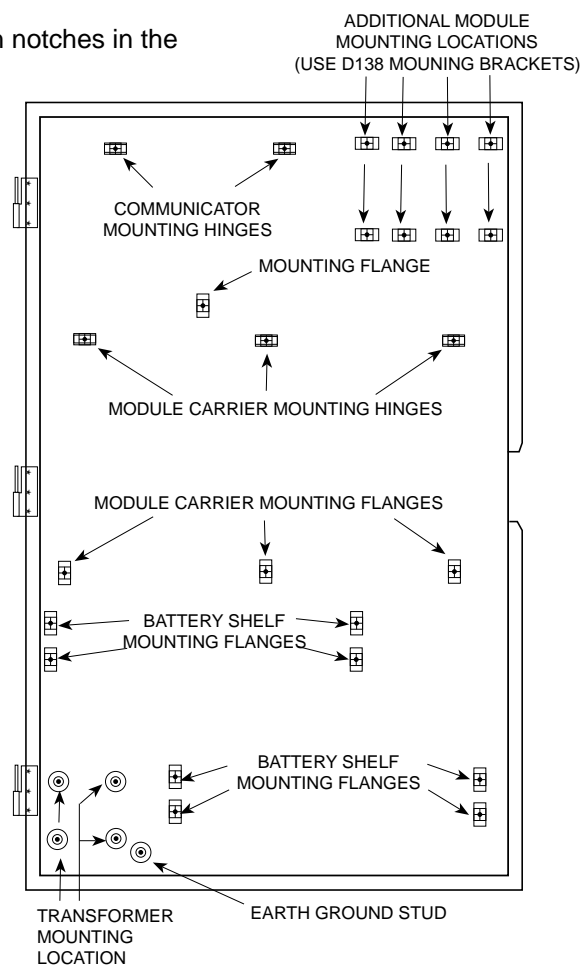

Figure 6: Mounting Locations
The D1601 is a 120 VAC, 16.5V/24VAC dual secondary transformer that is the primary power supply for the control/communicator and initiating devices of the D9124 system. Install the transformer in the lower left corner of the D9101 Enclosure (see *Figure 6*).
2. Place the star washers over the transformer studs the lower left corner of the D9100 Enclosure (see *Figure 6*).
1. Hang the Accessory Module Carrier on the three mounting hinges shown in *Figure 6*. Secure the three screws attached in the bottom three mounting holes.
2. Hang the control/communicator panel on the two mounting hinges shown in *Figure 6*. Secure the screw attached to the panel in the mounting flange.
The D9101 Enclosure provides four locations for mounting additional modules on D138 mounting brackets. Use D138 mounting brackets to mount modules like the D192C Bell Circuit Supervision Module, D125B Powered Loop Interface, D129 Dual Class A Initiating Module, or D8130 Release Modules. See *Figure 6* for mounting locations.